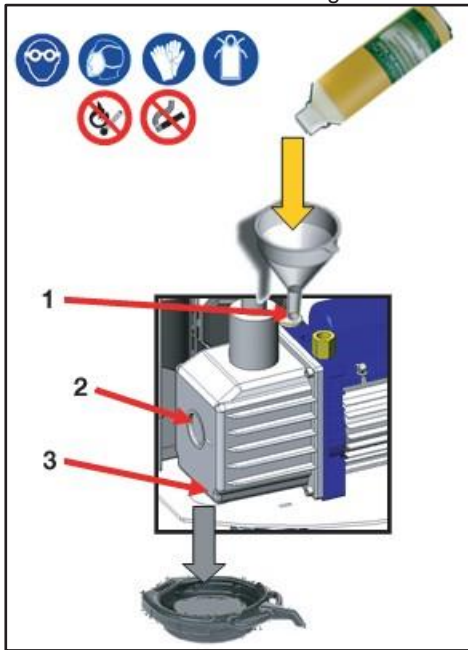

Fig. 29: Changing vacuum pump oil
2. Position the roll of paper inside the housing in the rotation direction indicated in Fig. 29.